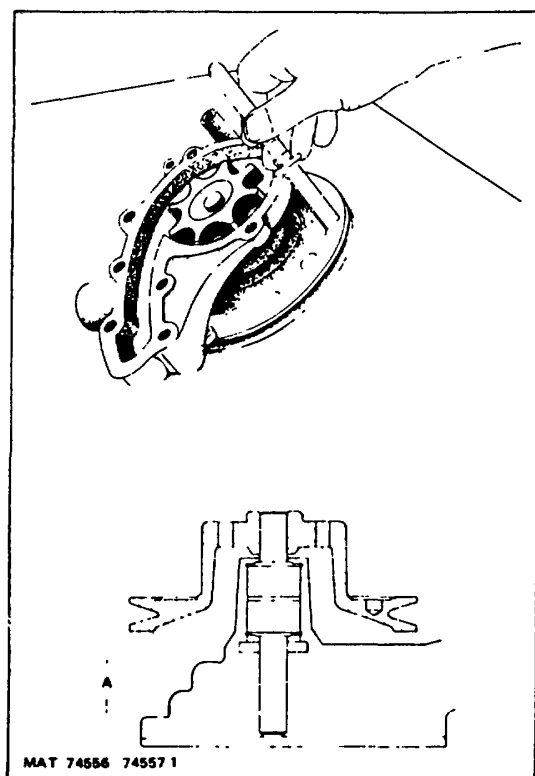
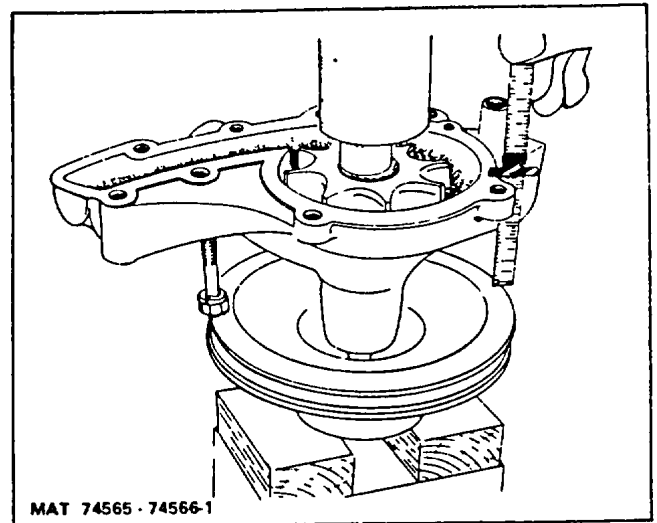

Figure 4. Measuring Distance Between Pump Body and Rear of Pulley Flange.
Figure 7. Pressing Water Pump Pulley to Correct Depth
1. Remove the back plate from the pump and measure the distance from rear of pump body to rear of pulley flange, see Figure 4. This measurement, "A" shown in Figure 4, insert, is used during pump installation.
3. Place the pulley on a flat surface, see Figure 7, pressing on END of shaft with arbor to dimension determined in the Disassembly section (Figure 4). Pulley should rotate freely.